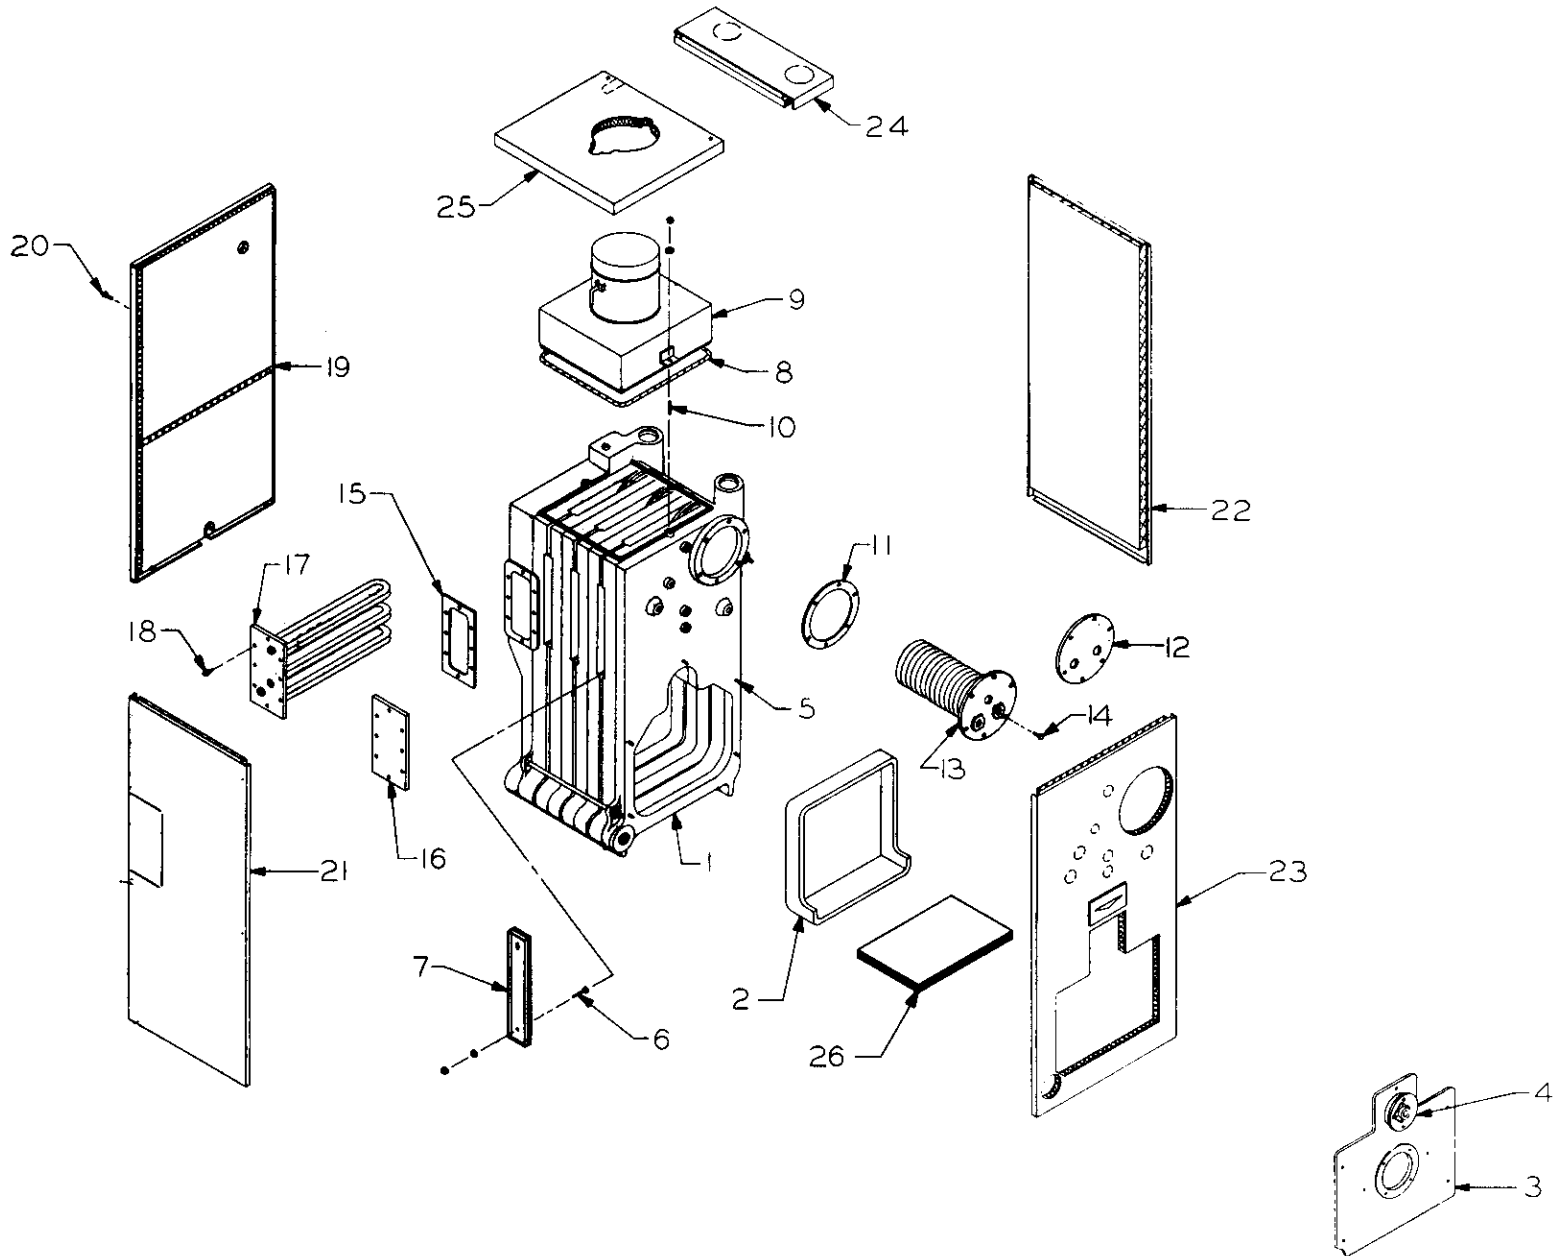

FIGURE 4
- 14— Remove flue collector and Hi Temp Rope (Items 8 and 9, Figure 4) from carton. Lay rope (Item 8) on top of boiler against bead provided. Place flue collector on top of rope and attach to boiler with 1/4"-20 x 1-3/4" studs and nuts. Draw down snugly. On Models 05 and 06, remove combustion chamber cover plate (Item 3) and attach flame observation assembly (Item 4) to Combustion Chamber Cover Plate (Item 3). Remove and discard round cast iron cover door X-1031 located on the inside of the cover plate.